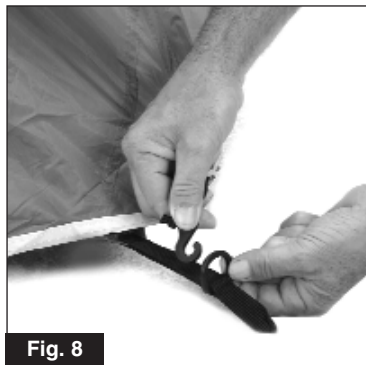

Fig. 8
5. Attach the hooks on the rainfly to the plastic loops on the four corner web straps (Fig. 8), and the metal loops on the sides of the tent.